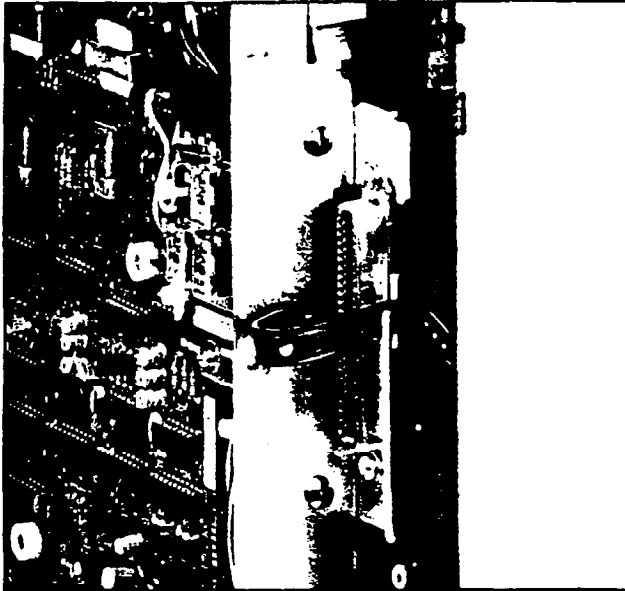

FIGURE 13—MKSU CABLE CLAMPING
09.02 A 25-pair male-amphenol-ended cable is connected directly to the female-amphenol-connector on the right side connector panel (Figure 13).